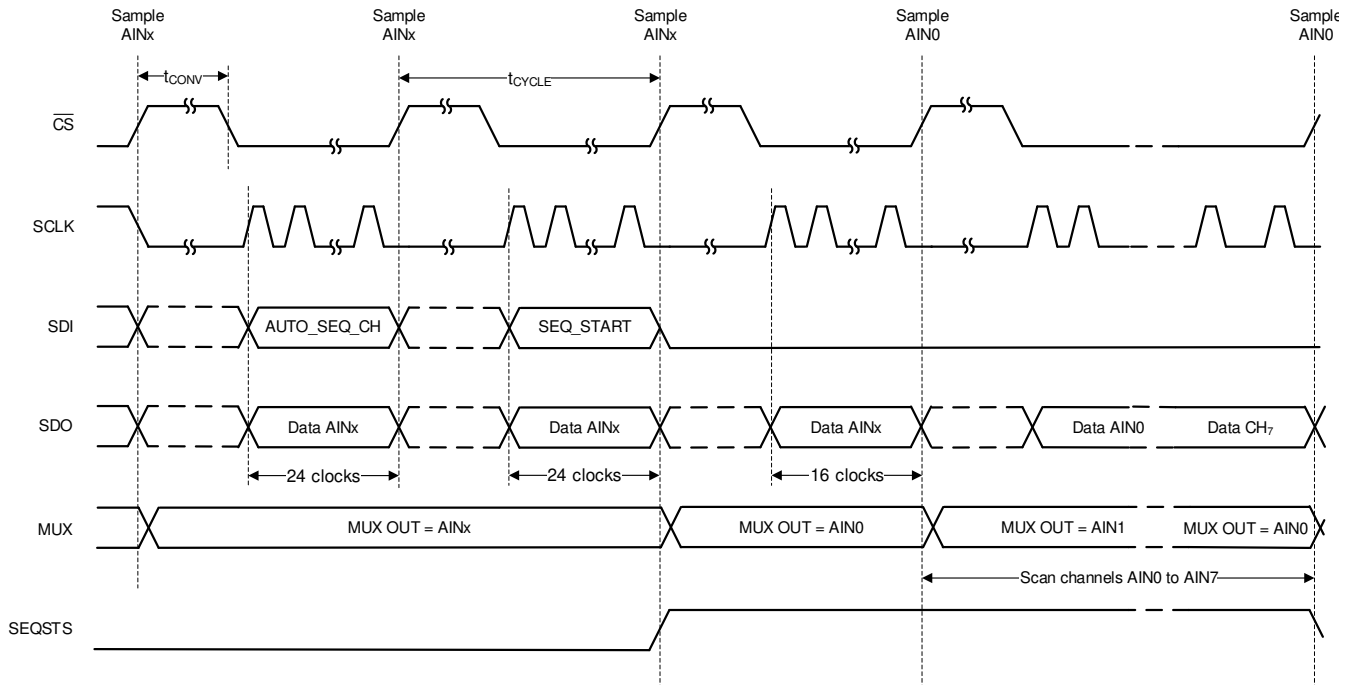
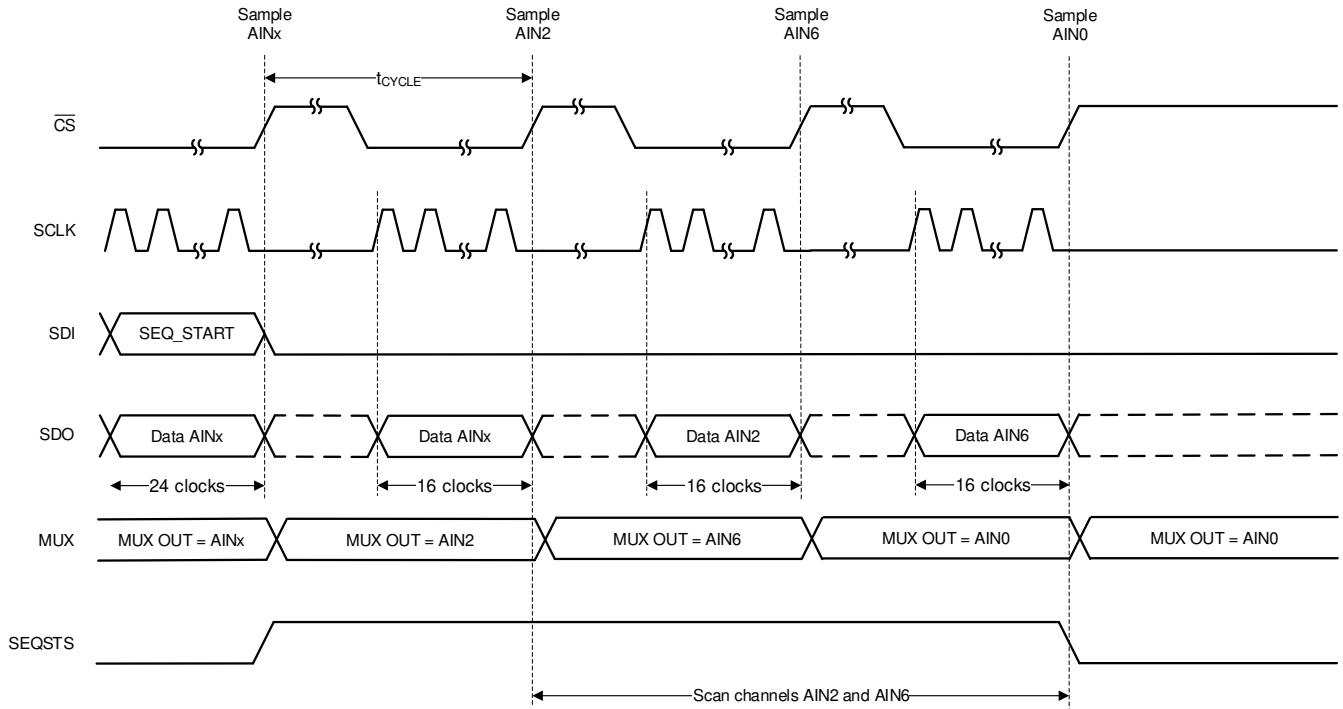

Figure 6-14. Starting a Sequence in Auto Sequence Mode
Figure 6-15. Example: Scanning Channels 2 and 6 in Auto Sequence Mode
In auto sequence mode, the internal channel sequencer selectively scans channels from AIN0 through AIN7 in ascending order. To select auto sequence mode, configure SEQ_MODE to 10b in the DEVICE_CFG register using a 3-byte register access. Enable one or more channels among AIN[7:0] by configuring the AUTO_SEQ_CFG1 register. By default all analog input channels are enabled. After enabling the desired channels, start the sequence by setting SEQ_START to 1b. The ADC auto-increments through the enabled channels after every \overline{CS} rising edge. Configure SEQSTS_CFG bit to 1b in SDO_CNTL4 register to indicate sequence status on SDO-1/SEQSTS pin. When SEQ_START is set to 1b, the SDO-1/SEQSTS pin is at logic 1 as shown in Figure 6-14 until the last channel conversion frame is complete. After the last enabled channel conversion is complete, channel AIN0 is selected and SDO-1/SEQSTS is in a high-impedance state.
As an example, Figure 6-15 depicts a timing diagram for when the device is scanning AIN2 and AIN6 in auto sequence mode. When AIN6 is converted, SDO-1/SEQSTS is Hi-Z and AIN0 is selected as the active channel. At the end of sequence, if more conversion frames are launched the device returns valid data corresponding to AIN0.
- Configure the AUTO_SEQ_CFG1 register. In Figure 6-15, AUTO_SEQ_CFG1 = 0x44.
After configuring the channel scanning order, start index, and stop index, initiate the scanning by setting the SEQ_START bit to 1b. The ADC scans through the enabled channels after every \overline{CS} rising edge as defined by the channel scanning order. When SEQ_START is set to 1b, the SDO-1/SEQSTS pin is pulled high until the last channel conversion frame is complete, as described in Figure 6-14. As illustrated in Figure 6-15, channel AIN0 is selected and SEQSTS/SDO-1 goes to Hi-Z after the last enabled channel conversion is complete.
As an example, Figure 6-15 provides a timing diagram for when the channel configuration is set as in Table 6-5. When AIN6 is converted, SEQSTS/SDO-1 goes to Hi-Z and AIN0 is selected as the active channel. If more conversion frames are launched at the end of the sequence, the device returns valid data corresponding to AIN0.
- Configure the CCS_START_INDEX and the CCS_END_INDEX registers. In Figure 6-15, CCS_START_INDEX = 0 and CCS_STOP_INDEX = 1.
- Configure the CCS_SEQ_LOOP register to 1 to indefinitely loop the sequence. In Figure 6-15, the CCS_SEQ_LOOP register = 0b.